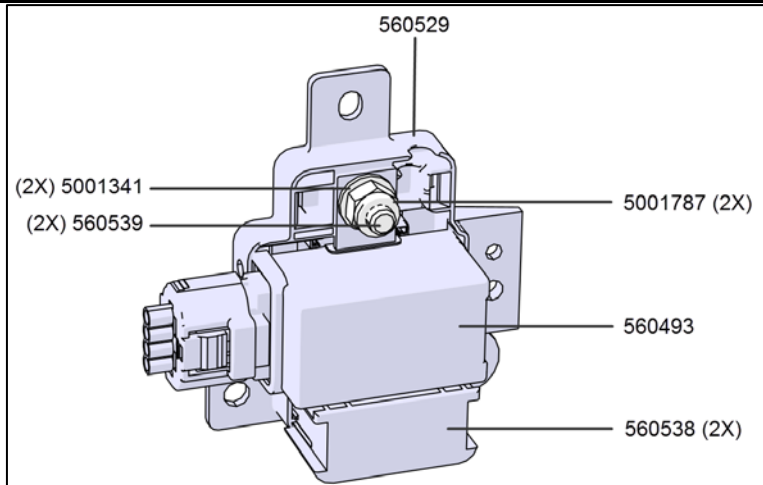
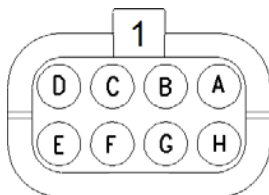

FIGURE 10: RELAY ASSEMBLY
FIGURE 18: VEC TYPICAL CONNECTOR PINOUT
14. Disconnect wire 911 JA: 17 of module A36 (Figure 10). Remove terminal using extractor **683766**. Cut terminal and insulate with a heat-shrinkable sleeve. (Figure 18)